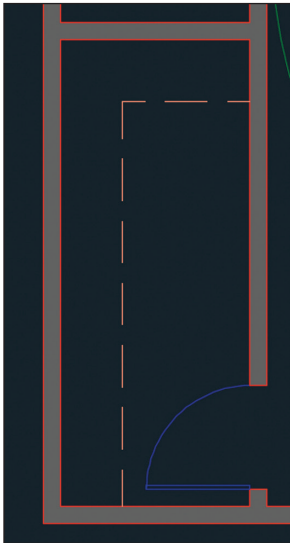

FIGURE 6.21 Hidden lines representing a high shelf in the closet
6. Type `48` (or `50` for metric) and press Enter. The lines appear with breaks indicating that the shelf is above the section plane (see Figure 6.21).